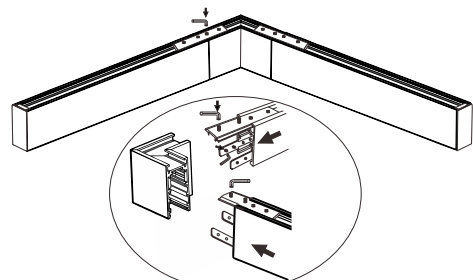

Figure3.2
2. The metal plate for fixing the inner track bolt and the back slot position and the horizontal corner shall be properly assembled and fixed with an inner six-pin wrench Good screw; (Figure 3.2)